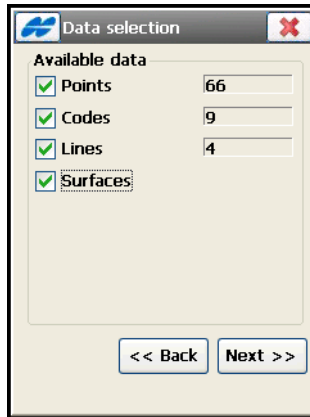

Figure 4-63. Data Selection for AutoCAD DXF
- **Next** – opens the *Data Selection* screen (Figure 4-63).